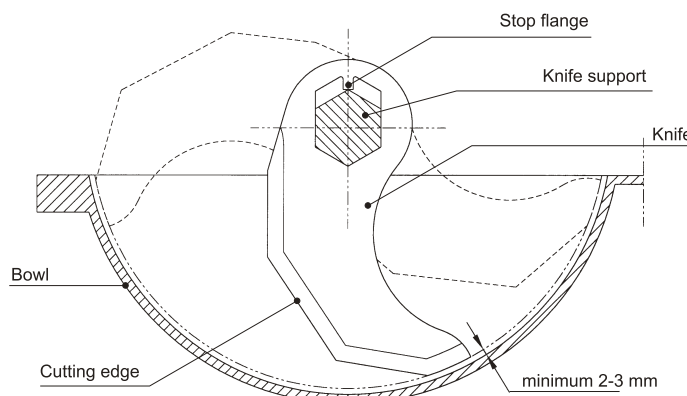

FIG. 3
- Adjust each knife so that there is a 2-3 mm space between it and the bowl (Fig. 3). For this adjustment we recommend using a space gauge made of a pliant material (cardboard, cork, etc.) to follow the path marked by the end of each knife and a plastic mallet to adjust the knives accordingly.
If the quality of the cutting/chopping should noticeably diminish, the knives should be sharpened by a qualified professional, paying special attention to maintaining the length and weight of each of the knives in a given group or head. The knives should only be sharpened by an expert specialized in the sharpening of tempered knives. Before sharpening the knives, consider whether the resulting reduction in size will be substantial enough to warrant the installation of completely new knives. In principle, the knife-edge should not be reduced more than 1 cm from its original size. Once the knives have been sharpened, before reinstalling them in the machine, a small space should be filed from the stop flange located in the hexagonal area (Fig. 3) to compensate for any possible shortening of the knives. To clean the knife surfaces, use a product with anti-corrosive properties. Always store the knives in their packaging; this will help maintain the cutting edge and it will protect them from any accidental bumps or friction. Always transport the knives in their packaging when possible. To adjust or move the knives always use adequate safety precautions and equipment.